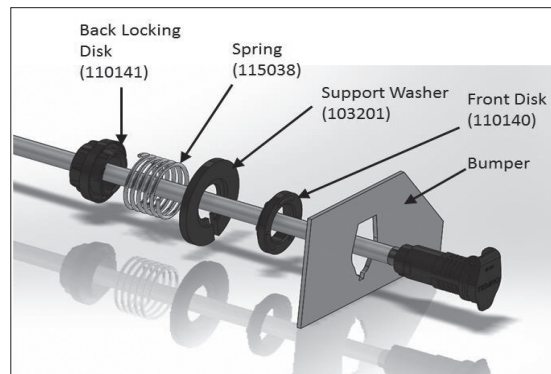

Figure 1
2. Cut a hole in the bumper using the provided template. Hole will be the exact profile of the cap, with an additional notch cut at the bottom. The notch will allow the Front Disk (110140) to slide through the hole at an angle. [Reference Figure 1 and 2]